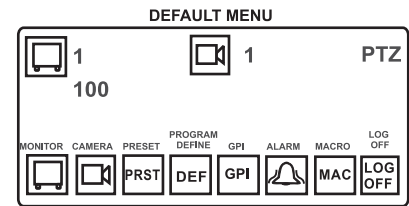

Figure 3-20
- a. After logging onto the system from the keyboard, press the  key to proceed to the DEFAULT MENU (see Figure 3-20).
- b. Enter the logical number of the alarm you want to ARM in the keypad and press the blue button below the ALARM icon as indicated in Figure 3-20.